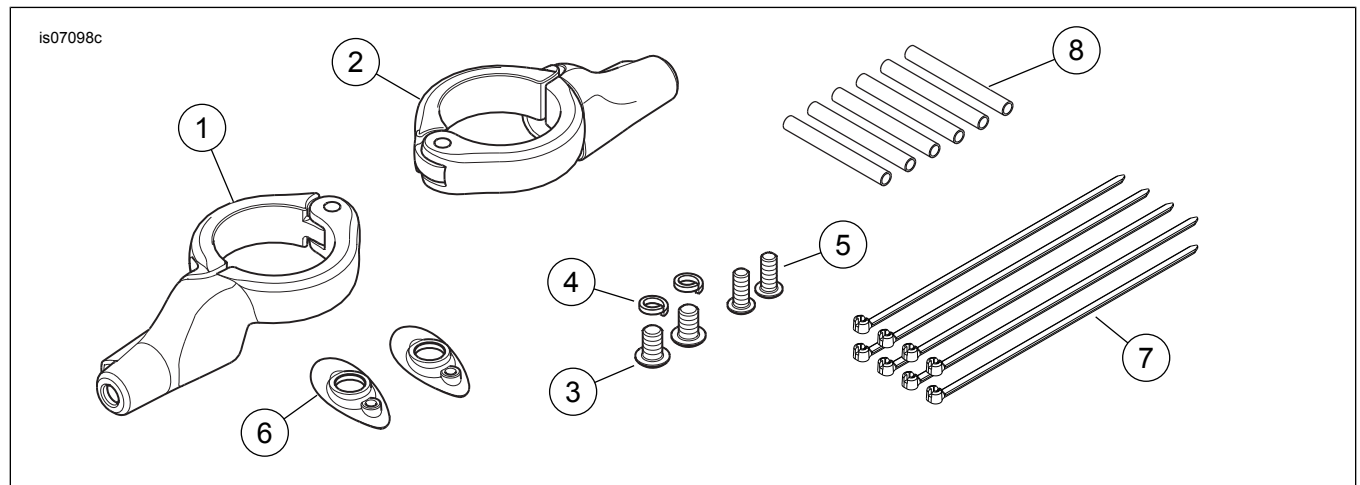

Figure 3. Service Parts: Front Turn Signal Relocation Kit
See Figure 3 and Table 1.
8. See Figure 3. Slip the 51 mm (2.0 in) long section of encapsulating (dual wall) shrink tube (8) over the conduit and wires, next to the turn signal housing.